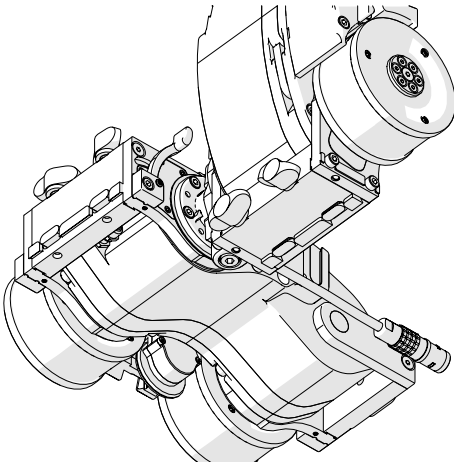
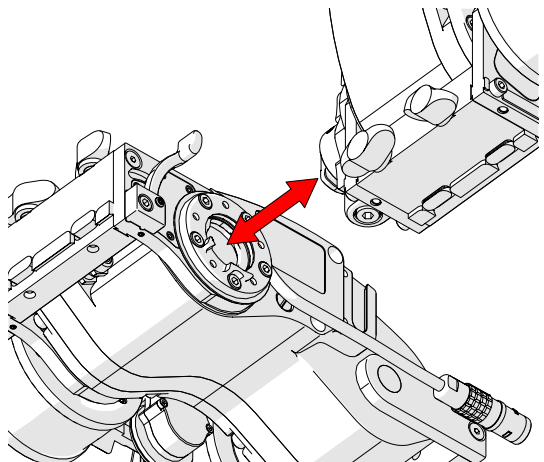

Fig. 116 - Rotate modules to 90°
Fig. 117 - Pull modules apart
2. Once the two modules are 90° perpendicular (Fig. 116), gently pull the two modules apart (Fig. 117).